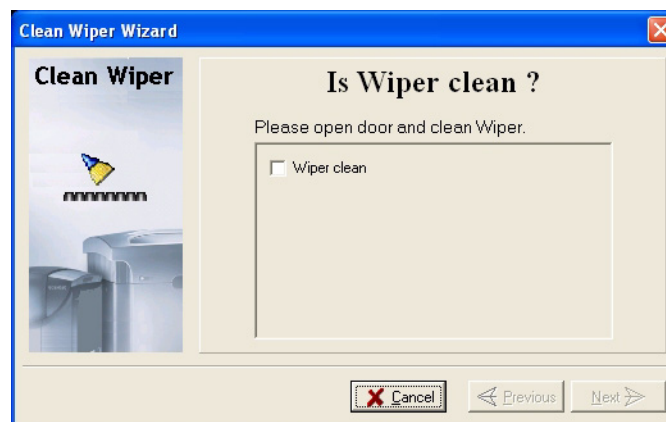

Figure 7-25:Wiper Cleaning procedure—steps 7–9
9. In the wizard screen, select the confirmation check box (see figure 7-25) and click Next.